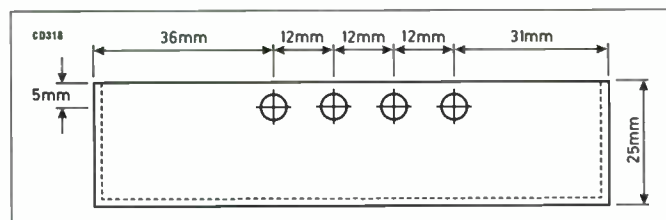

Fig 3.14. Positions of the holes in one long side of the screening box
4. Make the four 6mm holes along the edge of one long side. Fig 3.14 gives the dimensions used on the prototype but you must check the position of these holes (before drilling) to ensure that they will align with the cores of the coils.